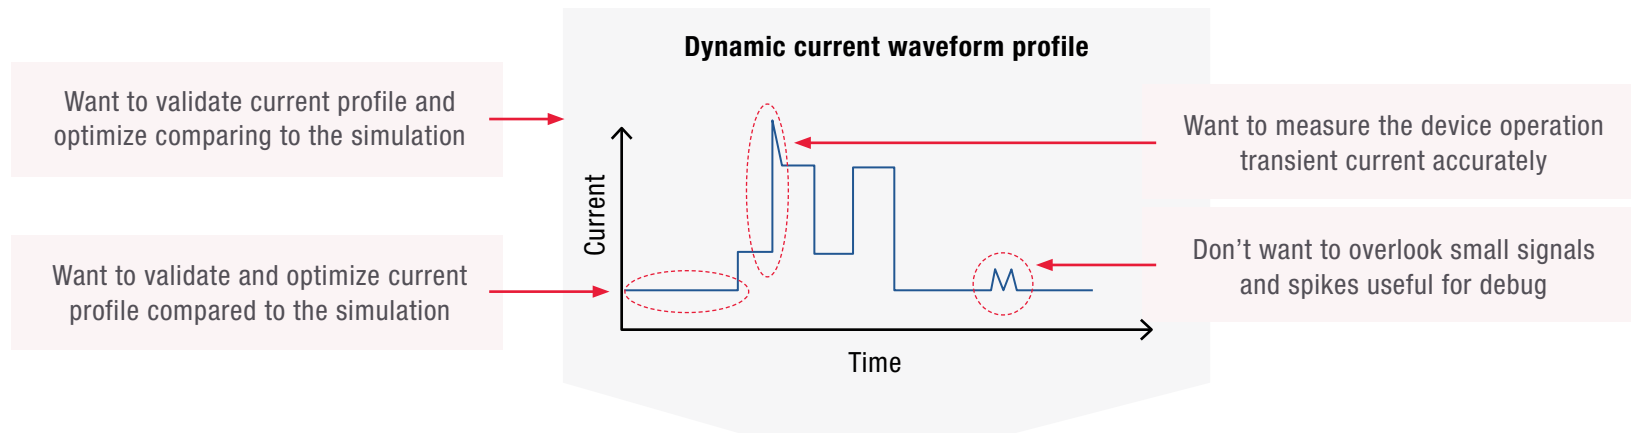

Figure 1. Example of low-power device and measurement requirements
- understanding measurement requirements of low-power devices (Figure 1)